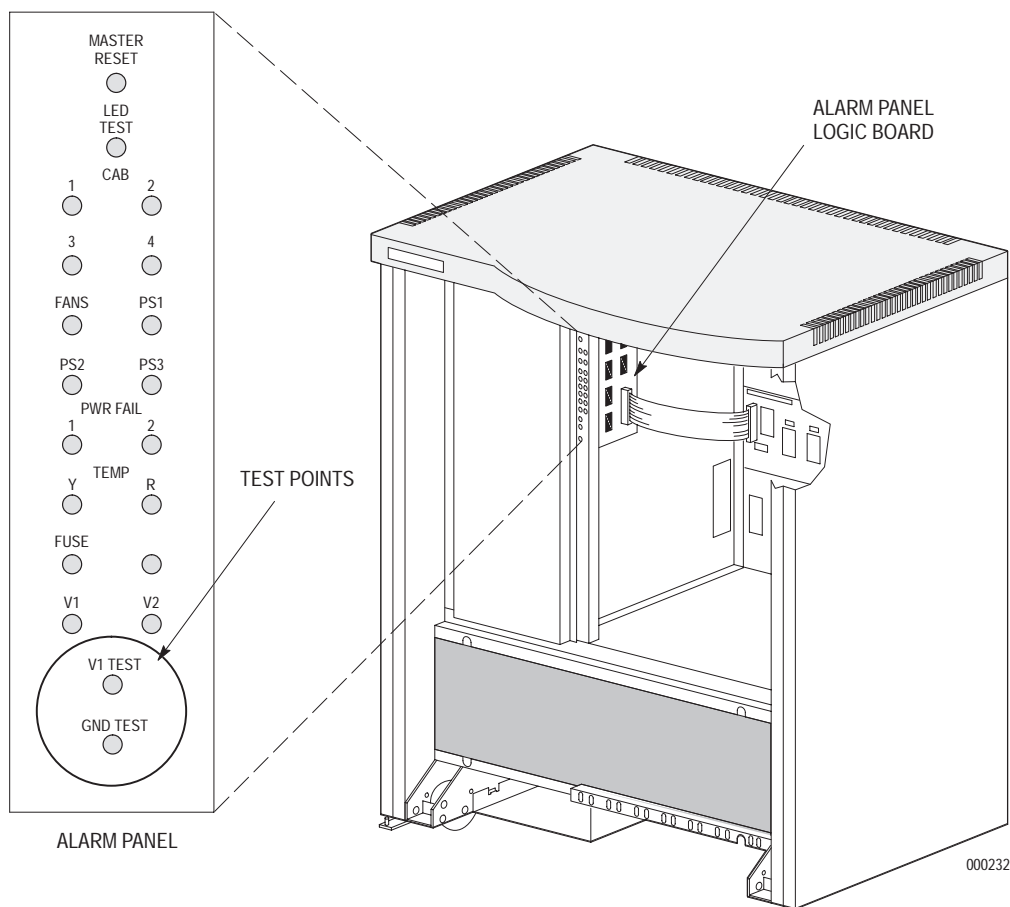

Figure 6-1. Test Points on the Alarm Panel.
2. Check the voltage. Use a digital voltmeter to verify that the internal power supply provides 26 Vdc to 29 Vdc. When the positive (red) lead of the voltmeter is connected to the V1 TEST point and the negative (black) lead is connected to the GND TEST point on the server, the voltmeter must read between +26 Vdc and +29 Vdc, *not* a negative voltage. Figure 6-1 shows the location of the test points on the alarm panel.